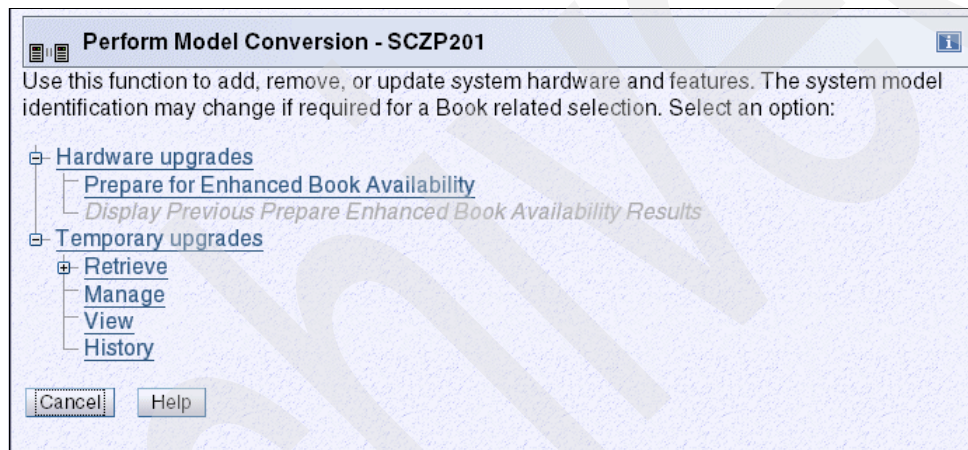

Figure 9-2 Perform Model Conversion; select Prepare for Enhanced Book Availability
For the EBA process, this is the preparation phase, and is started from the SE, either directly or on the HMC by using the single object operation option in the Perform Model Conversion panel from the CPC configuration task list. See Figure 9-2 on page 287.
The preparation step can be run several times without actually performing a book replacement. It enables you to dynamically adjust the operational configuration for book repair or replacement prior to Customer Engineer (CE) activity. Figure 9-2 shows the Perform Model Conversion panel where you select the **Prepare for Enhanced Book Availability** option.
5. Rerun the step in Figure 9-2 on page 287 (Prepare for Enhanced Book Availability task) to ensure that the required conditions are all satisfied.